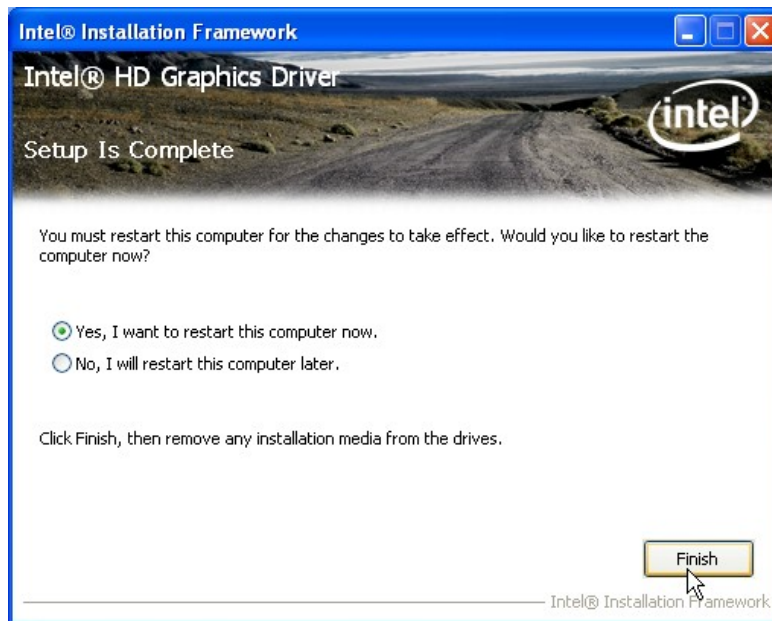

Figure 6-12: Graphics Driver Installation Finish Screen
Step 10: The **Finish** screen in **Figure 6-12** appears.